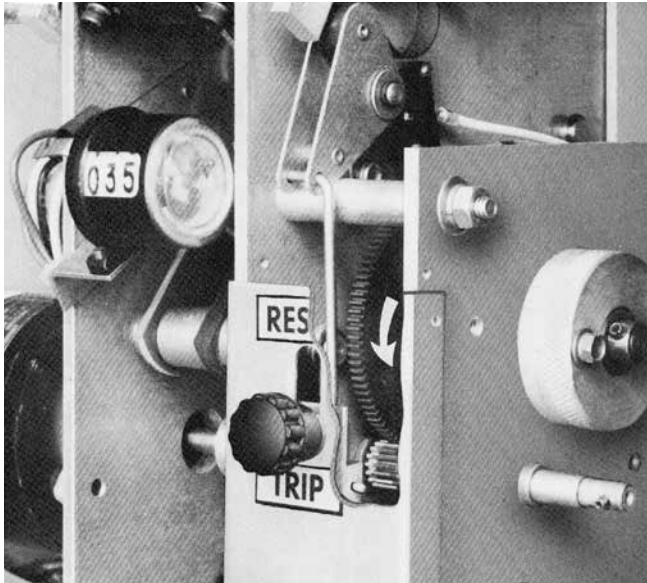

Figure 16. Main gear assembly location.
- f. Manually turn the main gear assembly an additional revolution counterclockwise (Figure 16) to make sure all cams are set.